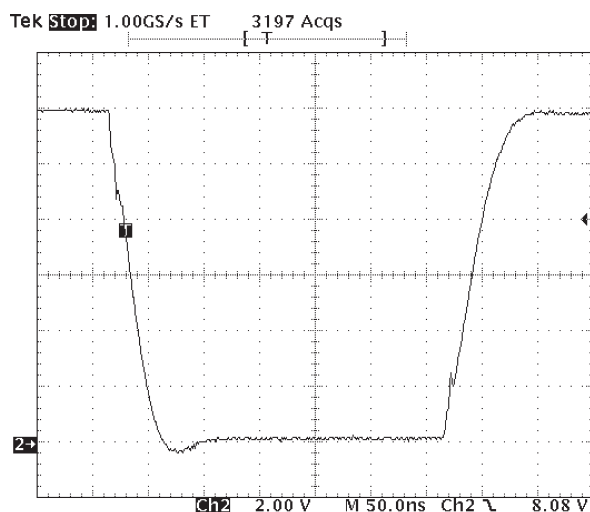

Figure 5.
Figure 5 shows the circuit performance achievable with a single driver (half of the 8-pin IC) driving a 10-nF load. The input pulse width (not shown) is set to 300 ns to show both transitions in the output waveform. Note the linear rise and fall edges of the switching waveforms which is due to the constant output current characteristic of the driver as opposed to the resistive output impedance of traditional MOSFET-based gate drivers.
- Added three paragraphs after first paragraph of *Operational Waveforms and Circuit Layout* section before Figure 5 10